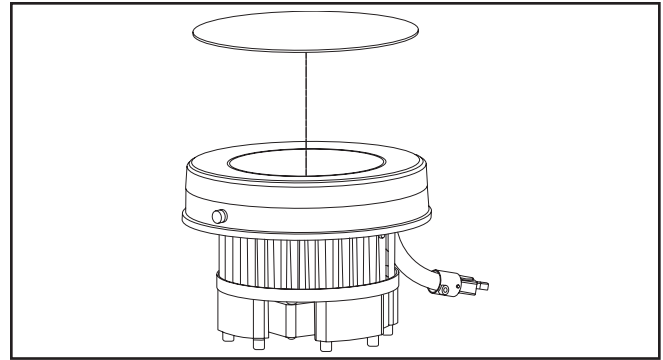

Figure 2.
2. Insert lens onto white reflector (Figure 2.).